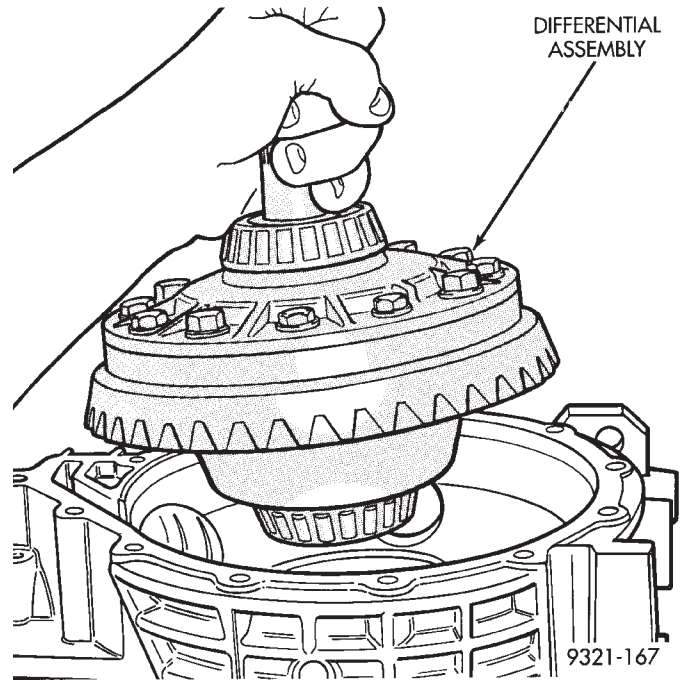

Fig. 287 Differential Assembly Installation
(50) Install new inner adjuster O-ring. Lube inner adjuster threads and O-ring. Then install inner adjuster flush with differential side of case.
(51) Install differential assembly (with ring gear attached) into transaxle case (Fig. 287).